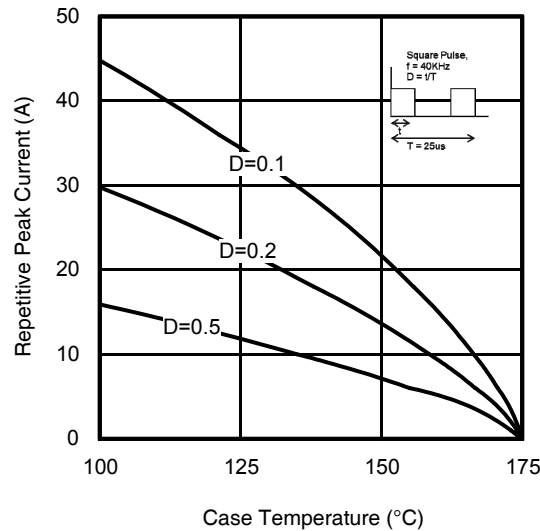

Fig. 26. Maximum Diode Repetitive Forward Peak Current vs. Case Temperature
- ① V_{CC} = 80% (V_{CES}), V_{GE} = 20V, R_G = 22Ω, L = 620μH.
- ② R_θ is measured at T_J of approximately 90°C.
- ③ Refer to AN-1086 for guidelines for measuring V_{(BR)CES} safely.
- ④ Pulse width limited by max. junction temperature.
- ⑤ Values influenced by parasitic L and C in measurement.
- ⑥ f_{sw} = 40KHz, refer to figure 26.